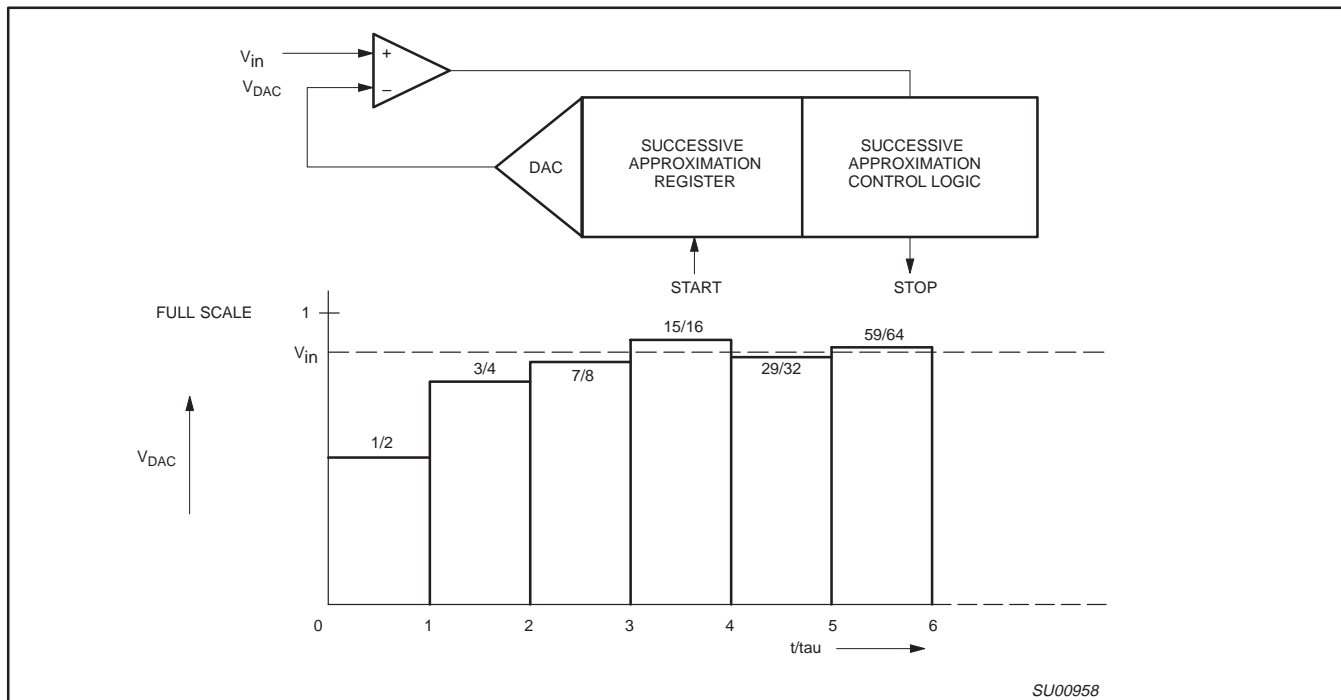

Figure 20. Successive Approximation ADC
10-Bit Analog-to-Digital Conversion: Figure 20 shows the elements of a successive approximation (SA) ADC. The ADC contains a DAC which converts the contents of a successive approximation register to a voltage (VDAC) which is compared to the analog input voltage (Vin). The output of the comparator is fed to the successive approximation control logic which controls the successive approximation register. A conversion is initiated by setting ADCS in the ADCON register. ADCS can be set by software only or by either hardware or software.